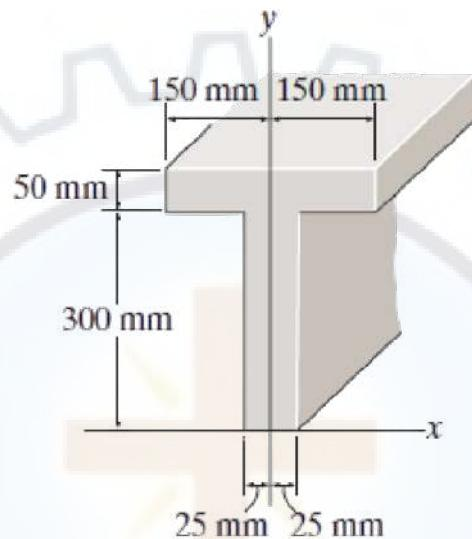

Figure 8
1. Locate the centroid  $y$  of the T-beam shown in Figure 8.